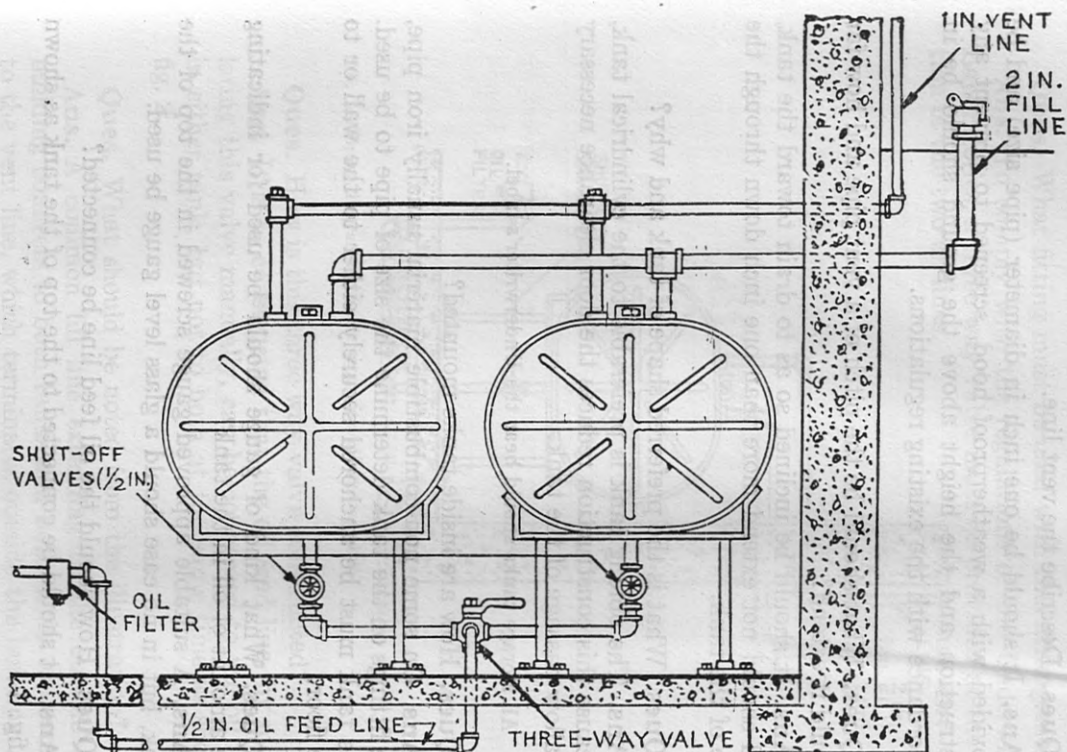

FIG. 2—Piping diagram for two inside fuel oil storage tanks.
**Ans.** It is so constructed that the oil feed line, by manipulating this valve manually, can be connected to the oil supply in either tank, but not to both at the same time as shown in fig. 2.